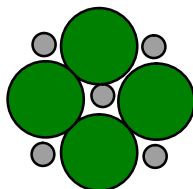

Figure 2
- coller ensemble les boules (figure 2)